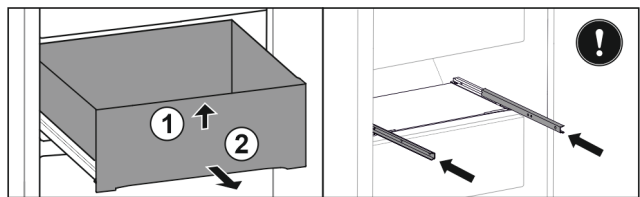

Fig. 158
- ▶ Lift up drawer at the front. Fig. 158 (1)
- ▶ Remove drawer to the front. Fig. 158 (2)